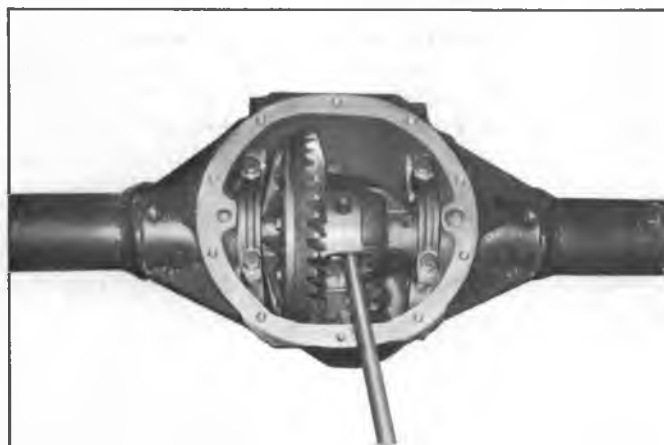

Fig. 1B-Differential Case Removal
4. Using a pry bar as shown in Figure 1B, pry differential case out of carrier. Exercise caution in prying on carrier so that gasket sealing surface is not damaged. If the bearings are preloaded, the case will suddenly fall free when it is pried past a certain point; therefore, make sure case is properly supported to prevent damage. The bear-
ing caps may be loosely installed, as shown in Figure 1B, to prevent case from falling.